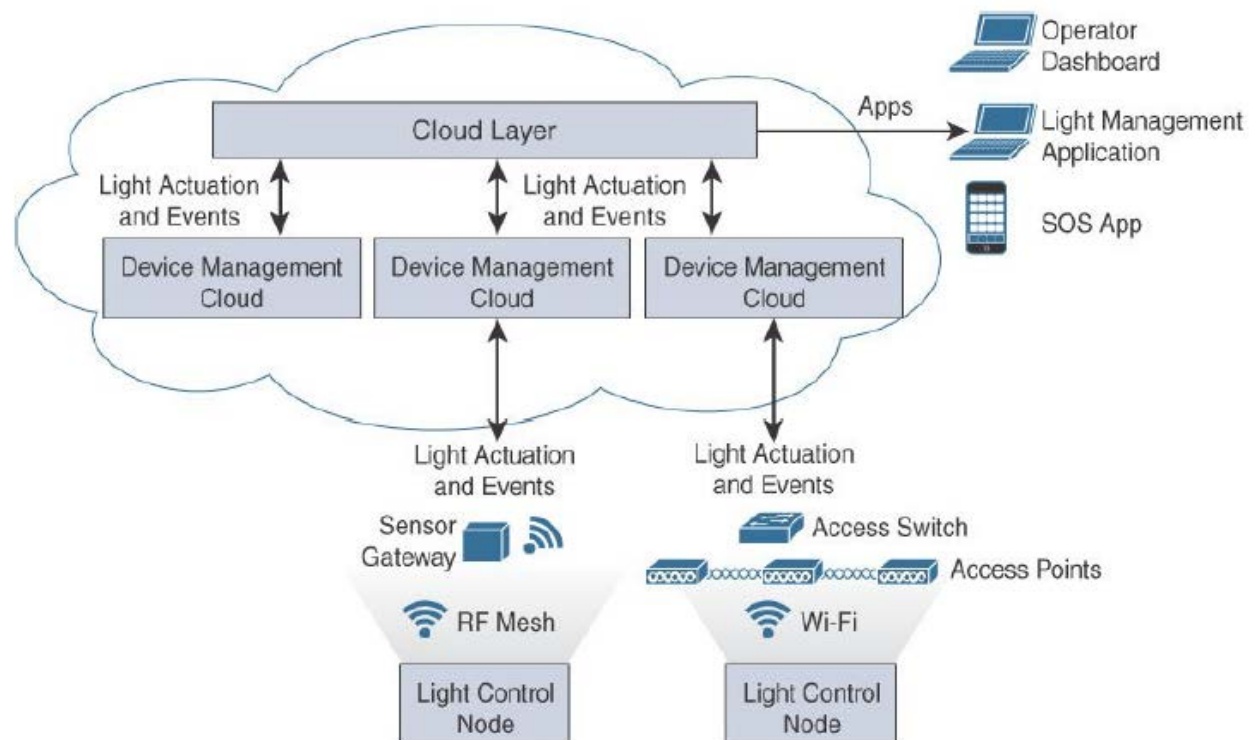

Figure 5.17 Connected Lighting Architecture
- The controller and LED lights use the cloud to connect to the smart city's infrastructure, as shown in Figure 5.17.
- In all cases, the built-in versatility offered by the four-layer architecture shown in Figure 5.17 ensures that all the different types of technologies optimized to fit any city topology can be flexibly incorporated into the solution.